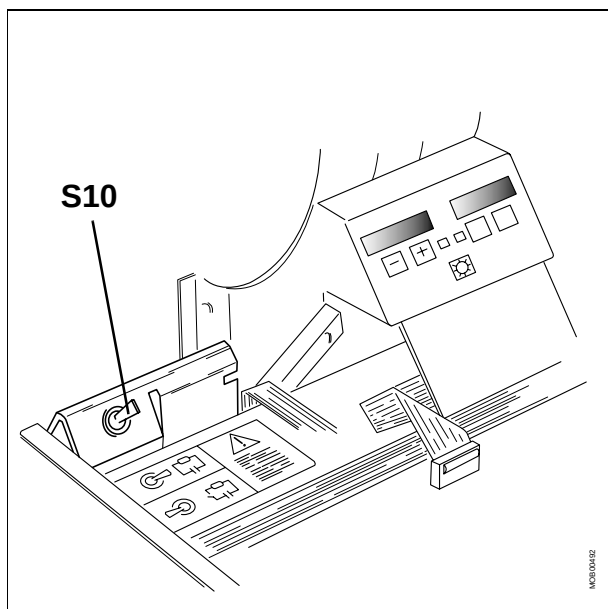

Fig. 1
- Discharge the capacitors of the power conversion unit with S10 (D7) (refer to Fig. 1).